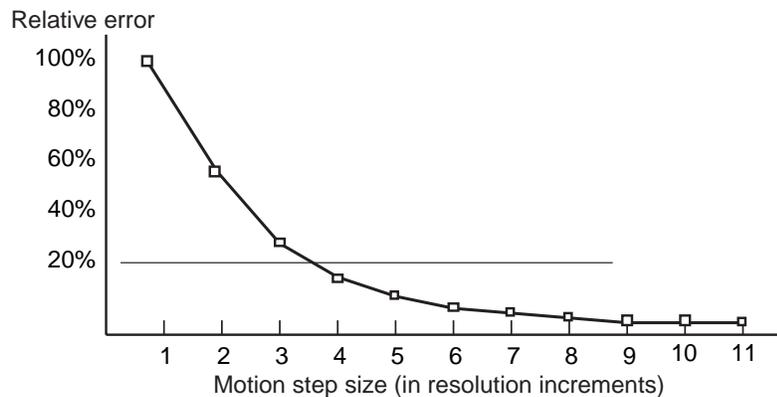

Figure 5.6: Error vs. Motion Step Size
**Figure 5.6** shows an example of such a plot. The graph represents the maximum relative error for different motion step sizes. In this example, the Minimum Incremental Motion that can be reliably performed with a maximum of 20% error is one equivalent to 4 resolution (encoder) increments.